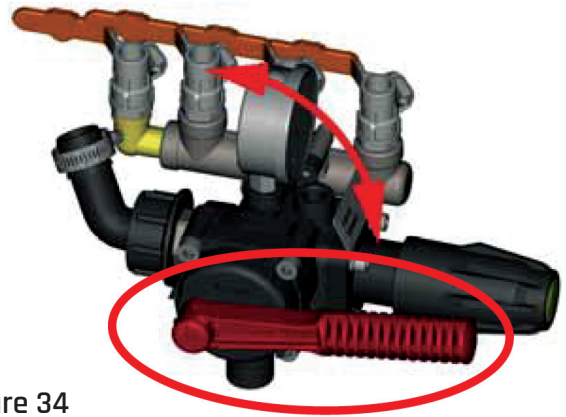

Figure 34
5. Make sure that the by-pass of regulator is in the regulator input lever position. (Figure 34 For Optional FPR Control).